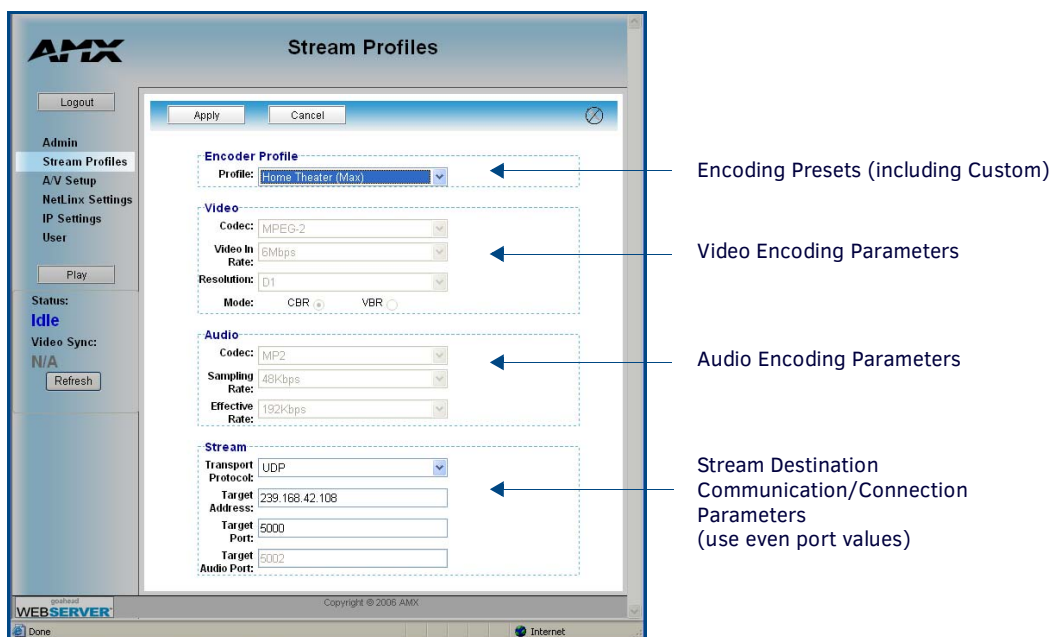

FIG. 132 Stream Profiles page
7. Access Stream Profiles page (FIG. 132) by clicking the **Stream Profiles** link from within the Navigation frame. This page allows a user to both configure the properties of the outgoing media stream and setup the properties associated with communicating the stream to an external IP-enabled device capable of receiving and processing the data.